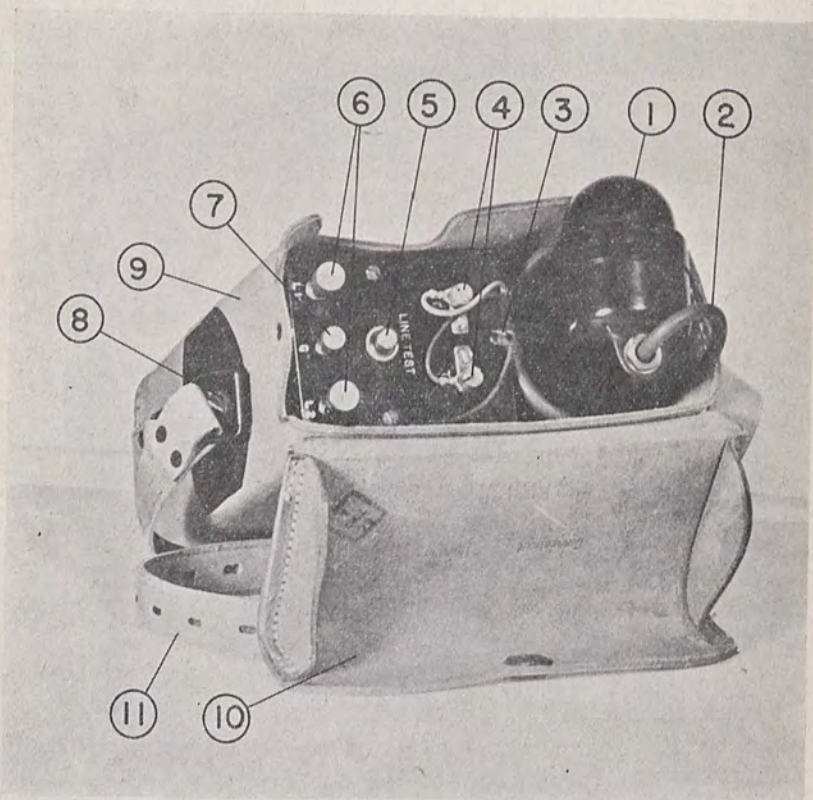

FIGURE 2. TELEPHONE EE-108, COVER OPEN.
snap fastener. The space within the case not occupied by the body, is used for the handset (Fig. 2). Removal of the handset permits access to the lightning arrester.
- d. *To Close Station.*—Remove the connections from L1 and L2 and the ground terminal G. Fold the handset cord loosely into folds about as long as the handset. Place the folds along-side the handset and insert the handset, receiver end first, into the case as shown in Fig. 2.